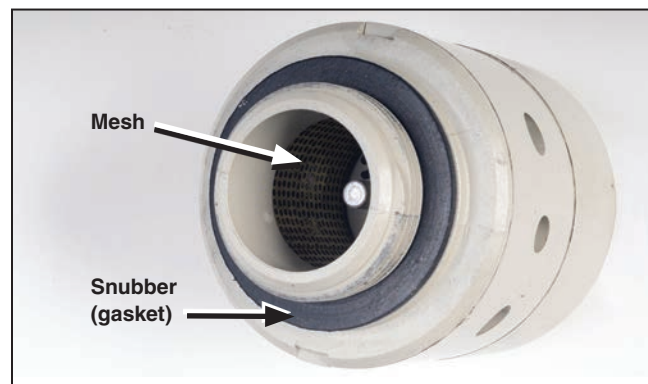

Figure 28. Inspect the silencer.
STEP 24. Inspect the silencer. Make sure the snubber (gasket) is in good condition. Also look inside and make sure there is no corrosion and that the mesh is in good condition. Push the pin that actuates the counter. The counter should advance to the next “operation number.” Replace the silencer if there is any evidence of damage. See Figure 28.